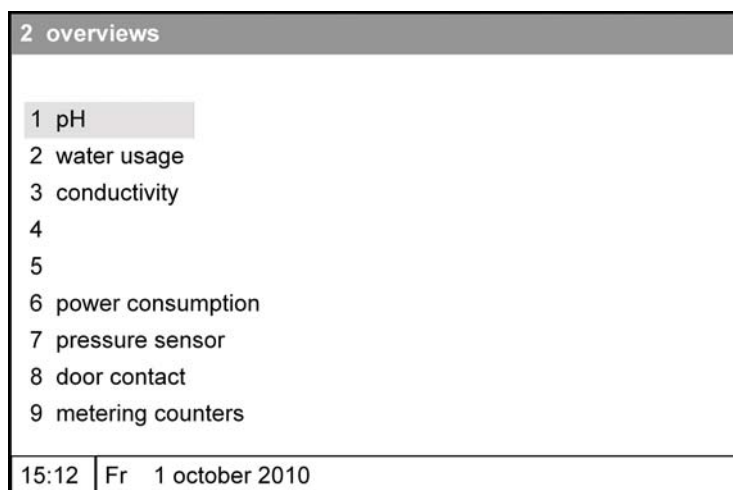

Figure 5-6: Overviews menu
Use the menu **Overviews** (2) to view the different consumption data and stored values over a longer period for each main group (see figure 5-6).